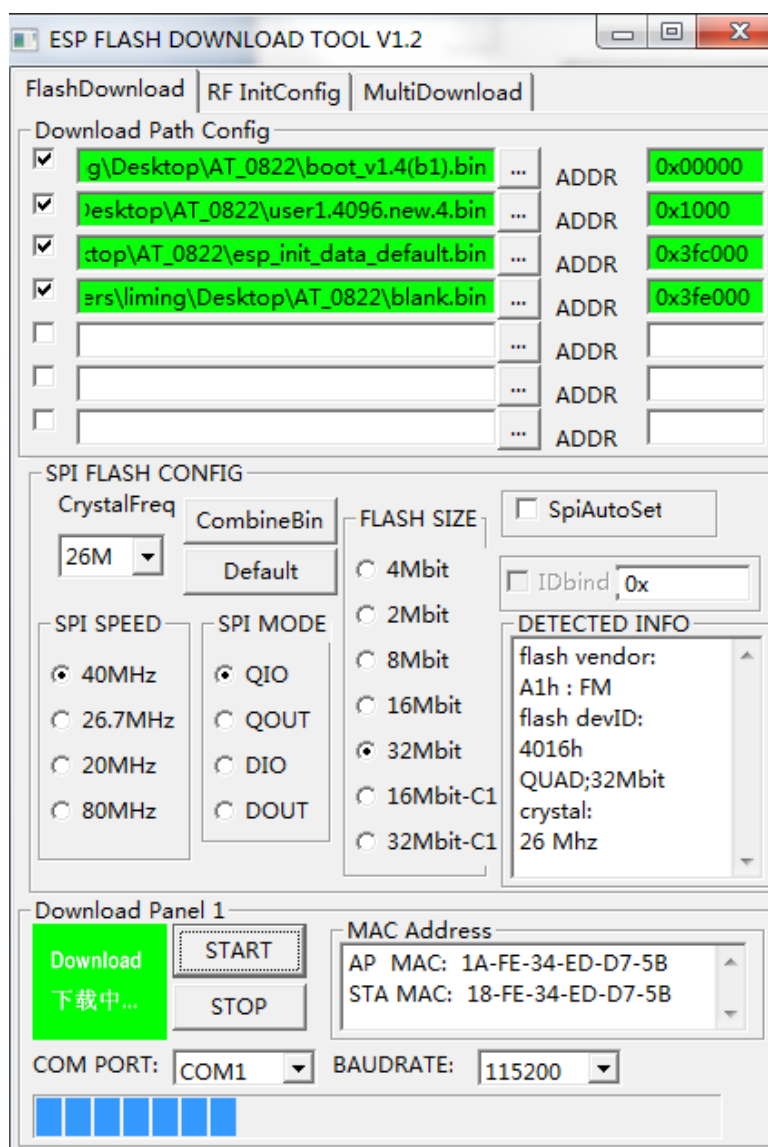

Figure 3-6 Program Downloading
4、Import the files need to be programmed in program software "Download Path Config" and set SPI SPEED, SPI MODE, FLASH SIZE and BAUDRATE parameters, click "START" button, splats change from "Waiting" to "downloading", which means program download started, please refer to figure 3-6: